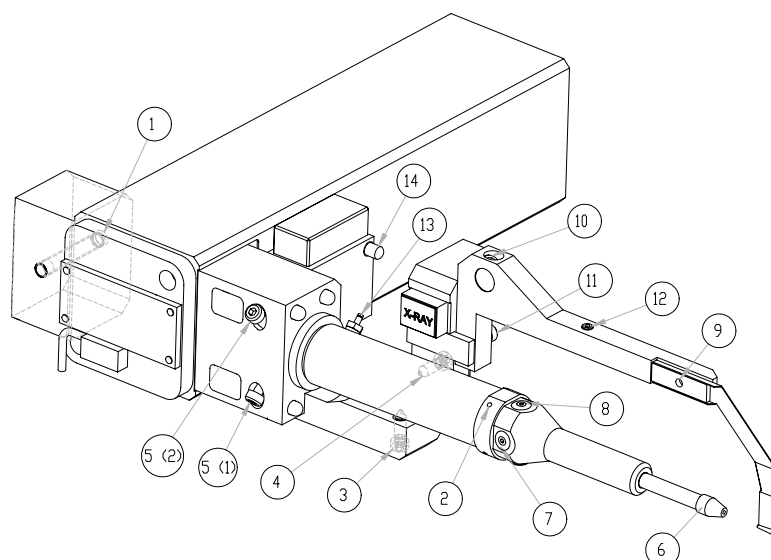

Figure 9.10.1 Adjustment screws of Enhance Ultra
5. Remove the Enhance ULTRA front face panel. Using a 3mm Allen key completely undo the screw 1 (see Figure 9.10.1) and lift off the front face panel.
6. Release the grub screws 2 (see Figure 9.10.1) and pull off the collimator
7. Unscrew the optic alignment x tilt, [i.e. screw 5(2)], y tilt [i.e. screw 5(1)] and the x pivot [i.e. screw 3] and y pivot [i.e.screw 4] (see Figure 9.10.1).
12. Adjust the height pivot screw 3 (see Figure 9.10.1) and type **card raw on 0.5**. Repeat points 11-12 to give a maximum intensity whilst retaining the sharply defined 45 degree square image.
13. Adjust the tilt screws 5(1) and 5(2) (see Figure 9.10.1) and type **card raw on 0.5**. Place the mouse cursor over the centre of the 45 degree square image. Right mouse click and select **integration at pixel position**. Record the intensity figure from the history window.
7. Fine adjust x tilt screw [i.e. screw 5(1) in Figure 9.10.1]. Type **card raw on 0.5**. Repeat points 6 – 7 until a maximum intensity figure results.
8. Fine adjust y tilt screw [i.e. screw 5(2) in Figure 9.10.1]. Type **card raw on 0.5**. Record intensity of the right hand spot as in point 6 above. Repeat point 8 until a maximum intensity figure results.
1. Remount the collimator by pushing on and tighten the grub screws 2 (see Figure 9.10.1). Note the collimator has a specific orientation.
4. Adjust the collimator x and y adjustment screws 7 and 8 (see Figure 9.10.1). Repeat 3 -4 until the X-ray beam is visible as a single intense circular spot.
7. Fine adjust the collimator x and y adjustment screws 7 and 8 (see Figure 9.10.1). Repeat 6 -7 until the X-ray beam is visible as a single intense circular spot.
9. Re-mount the Enhance ULTRA front face panel and secure using the screw 1 (see Figure 9.10.1).